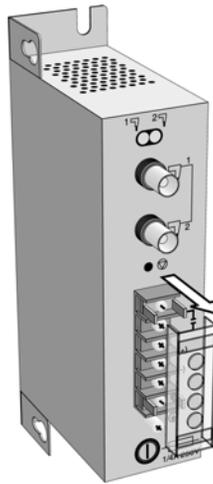

Figure 72. Removal of the terminal strip cover.
1. Remove the terminal strip cover, see Figure 72.